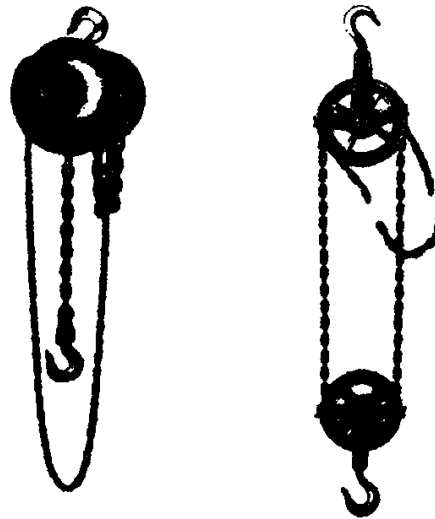

Fig. 7-1e Chain hoist
- e Chain hoists provide a convenient means for hoisting heavy objects. The slow lifting travel of the chain hoist is advantageous for permitting small movements, accurate adjustments and cautious handling of loads. Chain hoists differ widely in their mechanical advantage, depending upon their rated capacity. The load capacity of a chain hoist usually is stamped on the shell of the upper block. The lower hook is the weakest part of the assembly. This is intended as a safety measure so the hook will spread before the rig is overloaded (See **Figure 7-1e**.)